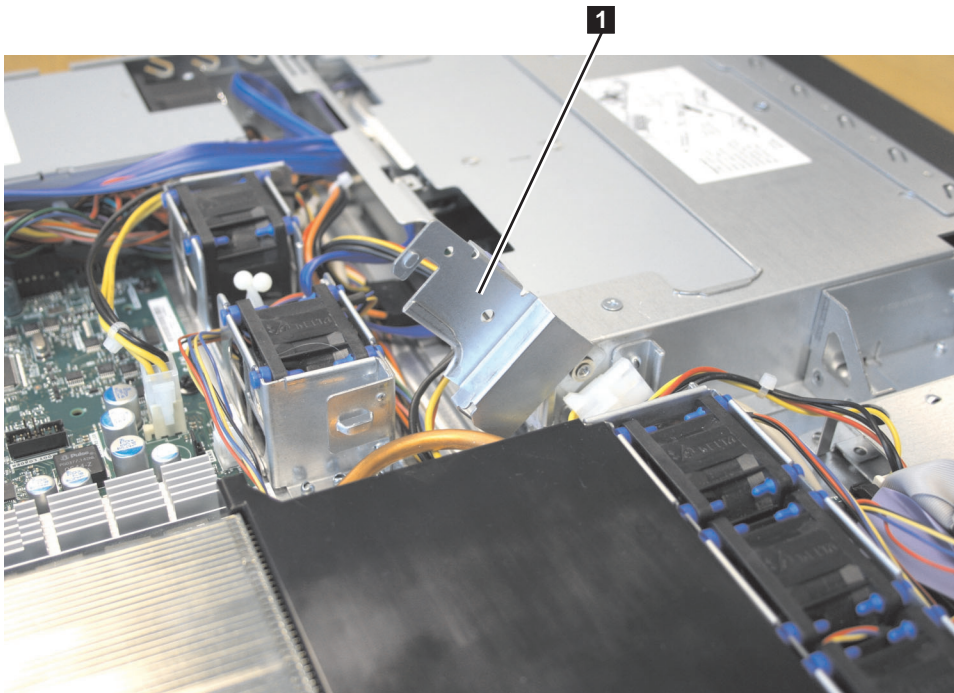

Figure 115. Air deflector for the SAN Volume Controller 2145-8A4 power supply
9. Rotate (lift) the air deflector **1** out of the way, as shown in Figure 115.